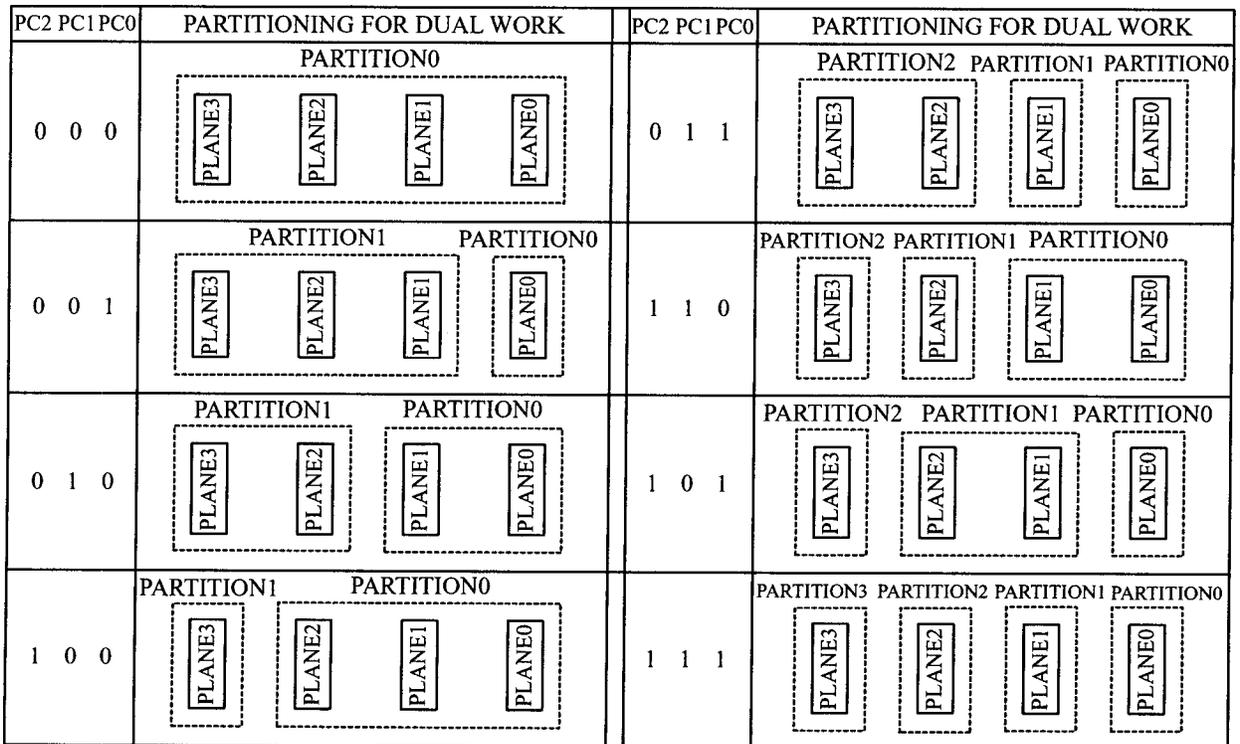

Figure 4. Partition Configuration
<p>PCR.15-11 = RESERVED FOR FUTURE ENHANCEMENTS (R)</p> <p>PCR.10-8 = PARTITION CONFIGURATION (PC2-0)</p> <p>000 = No partitioning. Dual Work is not allowed.</p> <p>001 = Plane1-3 are merged into one partition. (default in a bottom parameter device)</p> <p>010 = Plane 0-1 and Plane2-3 are merged into one partition respectively.</p> <p>100 = Plane 0-2 are merged into one partition. (default in a top parameter device)</p> <p>011 = Plane 2-3 are merged into one partition. There are three partitions in this configuration. Dual work operation is available between any two partitions.</p> <p>110 = Plane 0-1 are merged into one partition. There are three partitions in this configuration. Dual work operation is available between any two partitions.</p> <p>101 = Plane 1-2 are merged into one partition. There are three partitions in this configuration. Dual work operation is available between any two partitions.</p>	<p>111 = There are four partitions in this configuration. Each plane corresponds to each partition respectively. Dual work operation is available between any two partitions.</p> <p>PCR.7-0 = RESERVED FOR FUTURE ENHANCEMENTS (R)</p> <p>NOTES:</p> <p>After power-up or device reset, PCR10-8 (PC2-0) is set to "001" in a bottom parameter device and "100" in a top parameter device.</p> <p>See Figure 4 for the detail on partition configuration.</p> <p>PCR.15-11 and PCR.7-0 bits are reserved for future use. If these bits are read via the Read Identifier Codes/OTP command, the device may output "1" or "0" on these bits.</p>